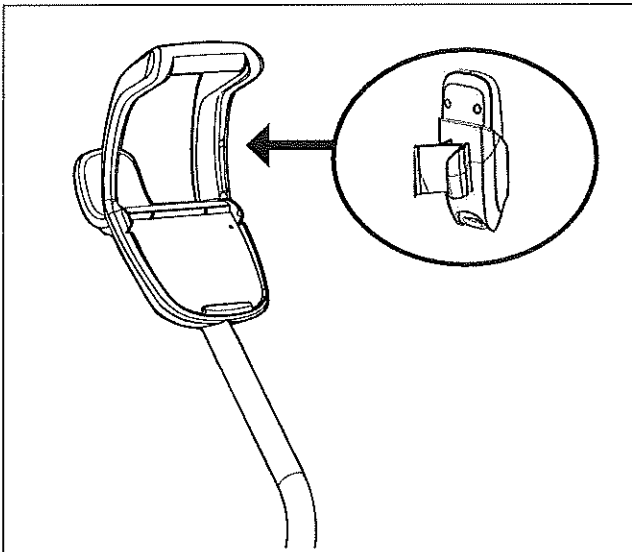

Figure 8. Snap Remote Control Holder into Place
9. (9550 Sport/P955) Locate pin on the remote control holder and align it with the receptacle on the handle of the caddy to attach the remote control unit to caddy (Figure 8).